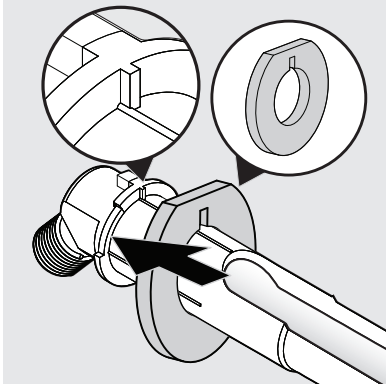

Figure 7
7. Remove the silicone paper on the foam pads. Stick the ring shaped foam pad to the fill tube. See Figure 7.